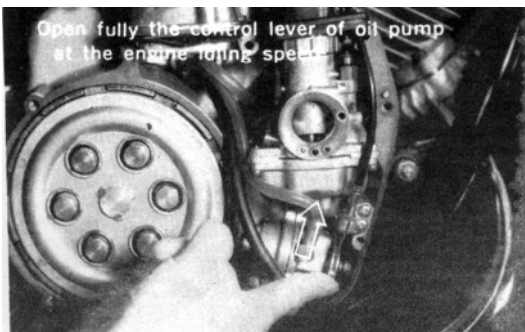

Fig. 14 Exhausting oil bubbles
6. After starting the engine, exhaust air bubbles in the oil tubes A, B and C by manually opening the control lever of the oil pump with the engine at idling speed. (Fig. 14)
7. Fit carburetor cover (R) after checking the oil pump.